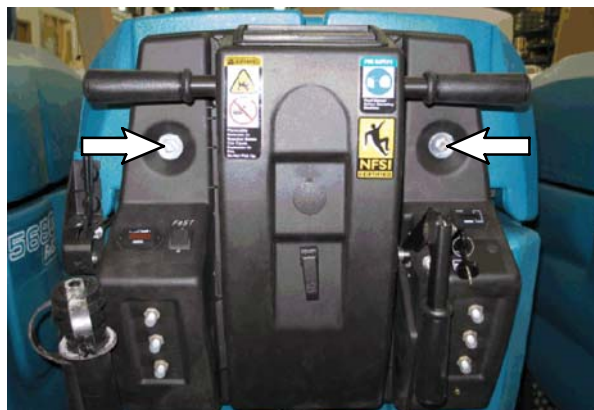

FIG. 3
5. Remove the hardware holding the rear panel to the machine and pull the rear panel open. Set the hardware aside. Refer to Fig. 3.